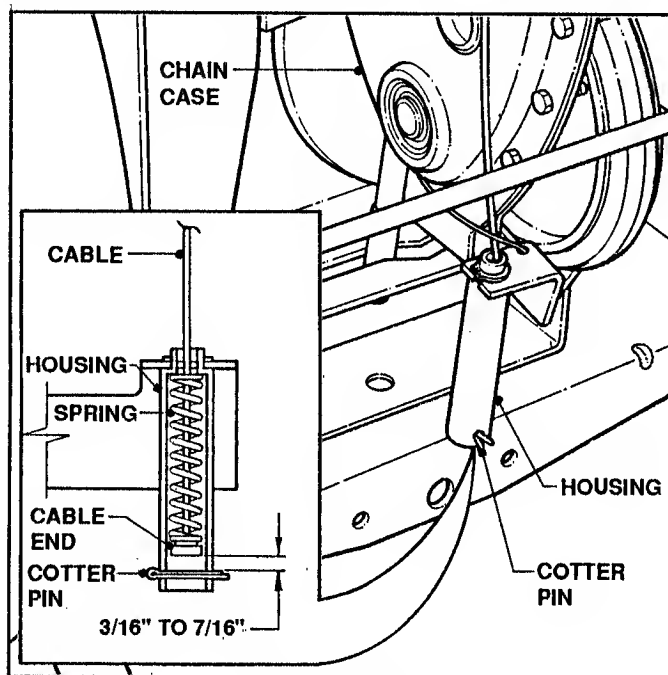

FIGURE 4.17
3. Measure the distance between end of clutch/brake cable and top of cotter pin. Measurement should be no less than 3/16" and no greater than 7/16". See Figure 4.17.
5. Adjust cable up or down using the jam nuts to obtain a distance of $5/16$ " between end of clutch/brake cable and top of cotter pin. Refer to Figure 4.17.